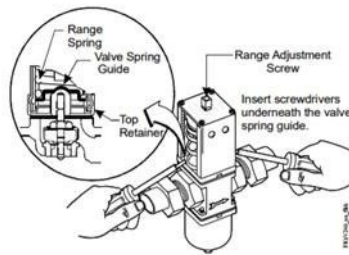

Figure 1: Manual Flushing
3. Manually flush the valve and piping before and after installing, repairing, or replacing a valve to remove filings, chips, or other foreign matter. Manual flushing does not affect valve adjustment. To flush the valve, insert screwdrivers under both sides of the valve spring guide and lift upwards. (see figure 1 below)